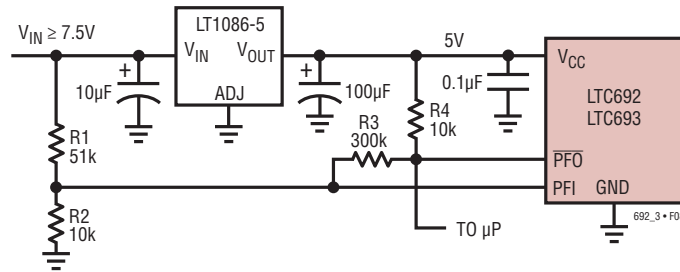

Figure 8. Monitoring *Unregulated* DC Supply with the LTC692/LTC693 Power-Fail Comparator
The LTC692/LTC693 generate a power failure output ( $\overline{\text{PFO}}$ ) for early warning of failure in the microprocessor's power supply. This is accomplished by comparing the power failure input (PFI) with an internal 1.3V reference.  $\overline{\text{PFO}}$  goes low when the voltage at the PFI pin is less than 1.3V. Typically PFI is driven by an external voltage divider (R1 and R2 in Figures 8 and 9) which senses either an unregulated DC input or a regulated 5V output. The voltage divider ratio can be chosen such that the voltage at the PFI pin falls below 1.3V, several milliseconds before the 5V supply falls below the maximum reset voltage threshold of 4.50V.  $\overline{\text{PFO}}$  is normally used to interrupt the microprocessor to execute shutdown procedure between  $\overline{\text{PFO}}$  and  $\overline{\text{RESET}}$  or RESET.
The power-fail comparator, C3, does not have hysteresis. Hysteresis can be added however, by connecting a resistor between the  $\overline{\text{PFO}}$  output and the noninverting PFI input pin as shown in Figures 8 and 9. The upper and lower trip points in the comparator are established as follows:
**Example 1:** The circuit in Figure 8 demonstrates the use of the power-fail comparator to monitor the unregulated power supply input. Assuming the rate of decay of the supply input  $V_{IN}$  is 100mV/ms and the total time to execute a shutdown procedure is 8ms. Also, the noise of  $V_{IN}$  is 200mV. With these assumptions in mind, we can reasonably set  $V_L = 7.25V$  which is 1.25V greater than the sum of maximum reset voltage threshold and the dropout voltage of LT®1086-5 (4.5V + 1.5V) and  $V_{HYSTERESIS} = 850mV$ .